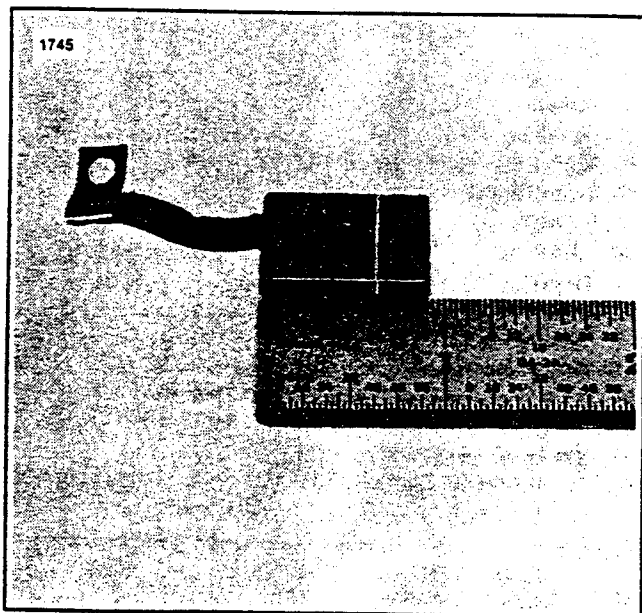

Figure 8-25. Measuring Brush Length
- Check brush length (Figure 8-25). If any brush is worn to its minimum length when measured at its shortest point, new brushes are needed. Replace brushes in sets of four only.